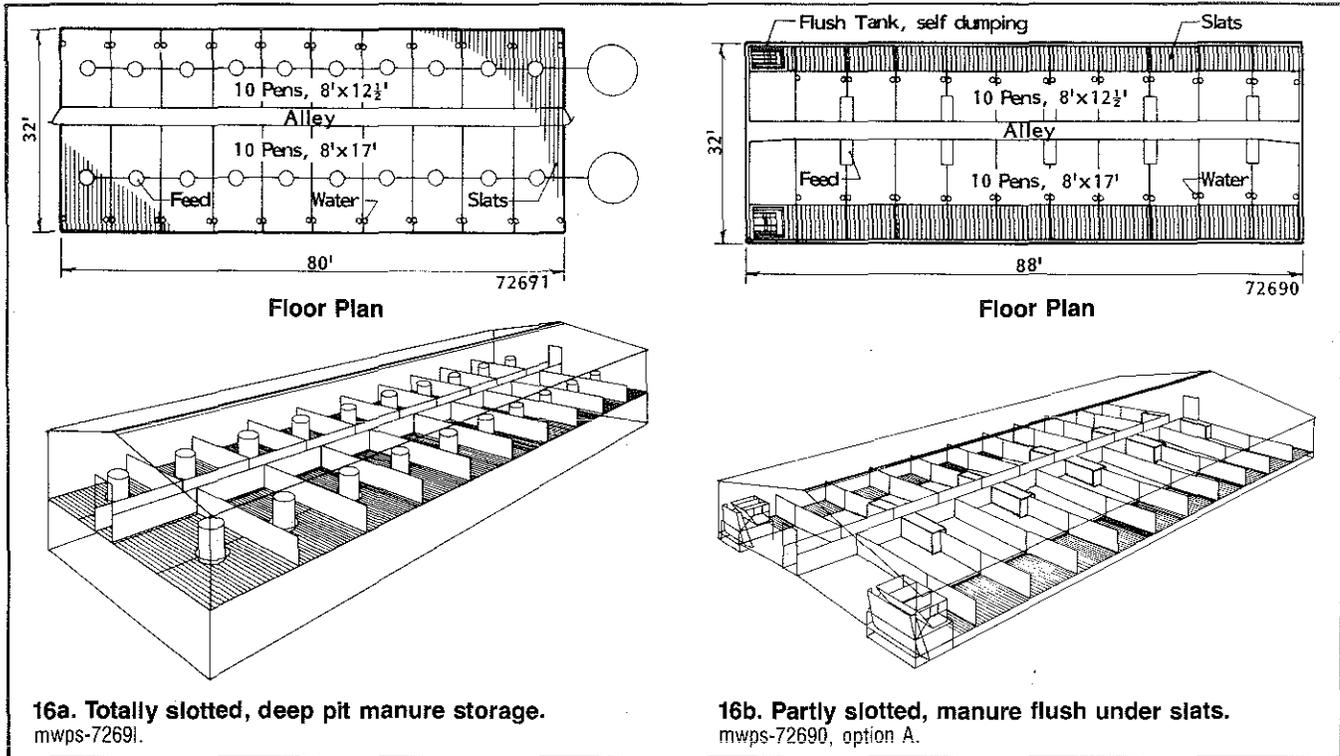

Fig 16. Environmentally controlled growing-finishing buildings.
Environmentally controlled (EC) buildings are usually the most expensive, Fig 16. An EC building is usually 32'-44' wide with two rows of pens. They are often totally slotted, because bad dunging habits and inadequate manure storage can be a problem with partly slotted floors.